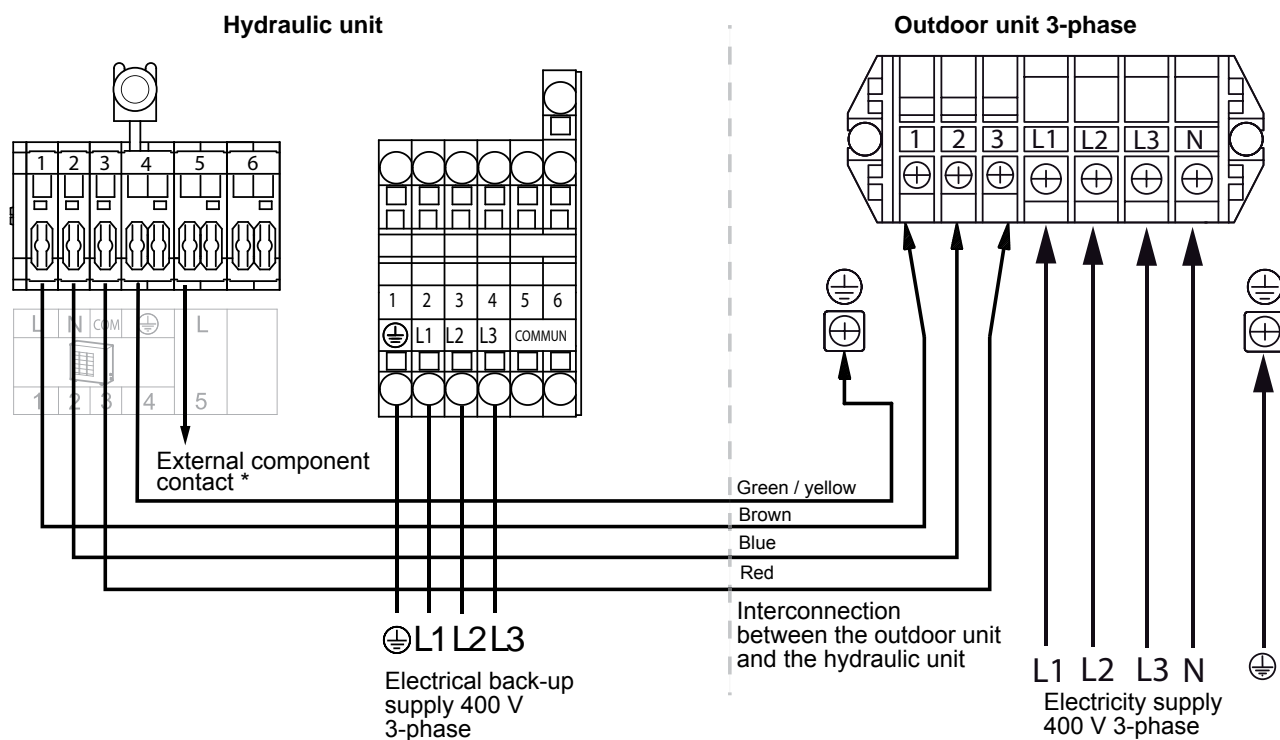

figure 33 - Connection to terminal block and power relays
- Make the connections in accordance with the diagram **figure 33, page 30**.
- Make the connections in accordance with the diagram figure 33, page 30.